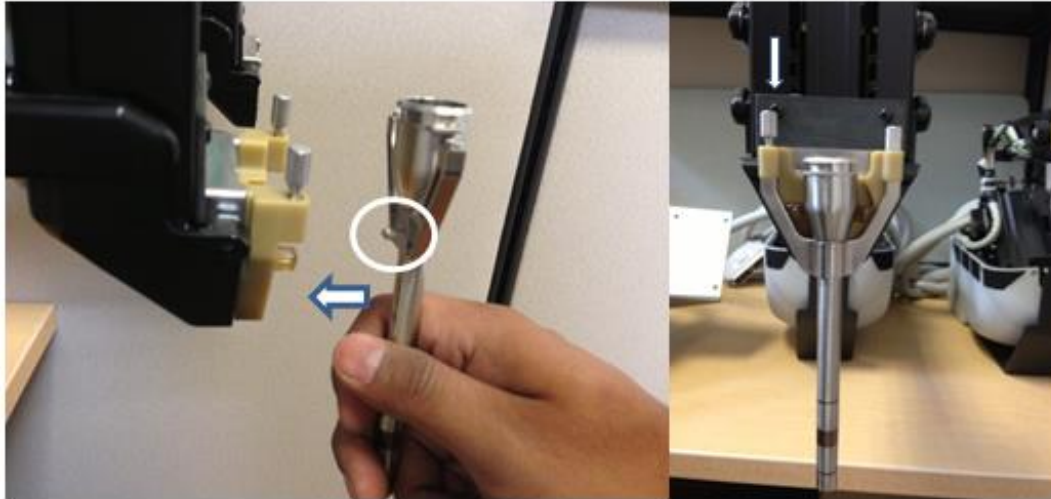

FIGURE 25: INSTALLING THE CANNULA.
2. Once in place fasten the cannula by the two screws present on the cannula holder as shown in Figure 25. Be careful to avoid cross-threading!